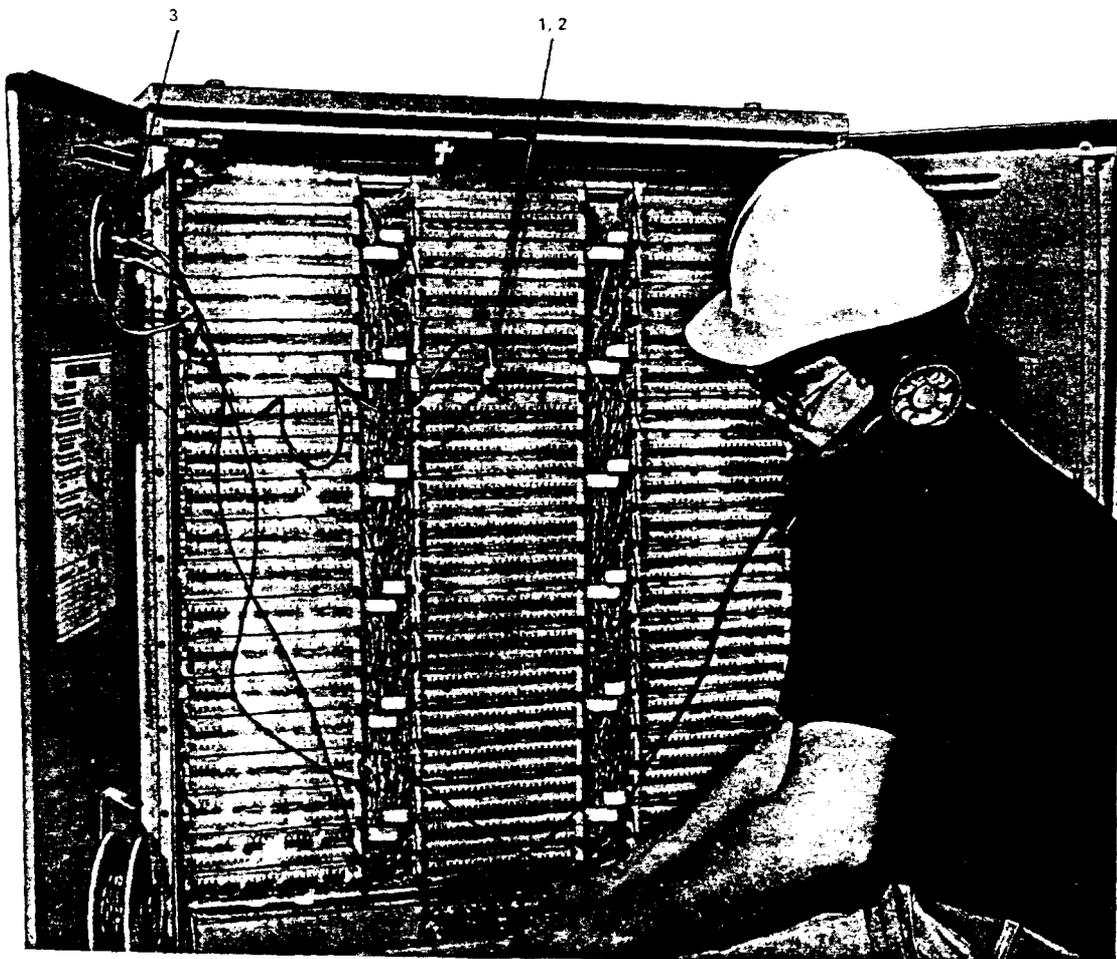

Figure 7. Verify Feeder-In Pair
3.01 Verify the feeder-in pair as follows (Figure 7):